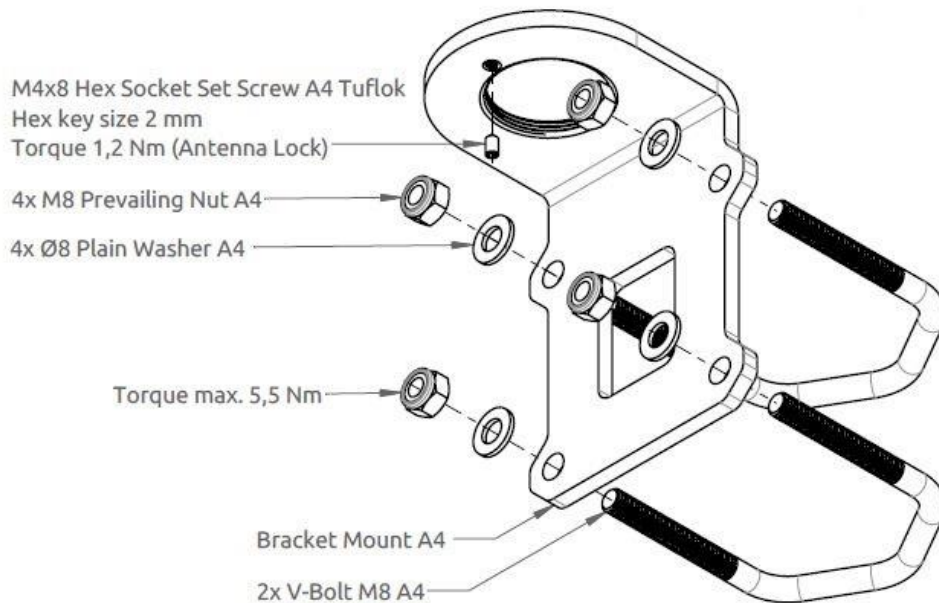

Figure 22: Bracket Mount (1.5" to 2.5" pipe), Antenna Unit – (horizontal pipe mount)
1. Fasten the bracket mount to a pipe (max. 2.5" pipe) by using the two V-bolts and the M8 prevailing nuts, as illustrated in Figure 22 on page 21 (max torque = 5.5 Nm)
NOTE: Always fasten the Bracket Mount, Antenna Unit (1.5" to 2.5" pipe) to the pipe, before installing the LT-3130 Antenna Unit (the antenna unit and bracket mount are fastened together by the thread lock). Remember to secure the pinot screw after the antenna unit has been fastened. The torques are specified in Figure 22 on page 21.
The Bracket Mount (1.5" to 2.5" pipe), Antenna Unit can support pipes in the interval 1.5" to 2.5". The torques are specified in Figure 22. The bracket mount, V-bolts, and nuts are all made of A4 stainless steel